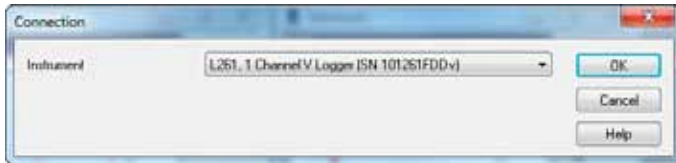

Figure 5-4
- The **Connection** window will appear (see Figure 5-4).